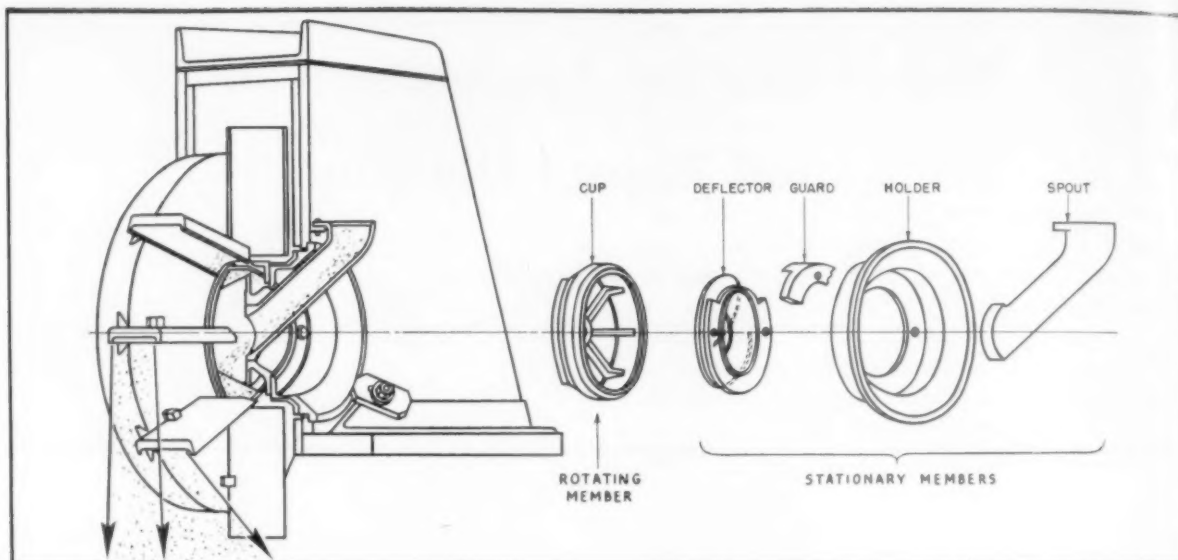

Fig. 2. Airless blasting, where abrasive is picked up by centrifugal force of rotating wheel and thrown along vanes at high velocity.
3. Centrifugal (Airless) Blasting. In equipment of this type, the abrasive is fed through the center of a rotating paddle wheel and is thrown by centrifugal force along the vanes at high velocity (see Fig. 2).